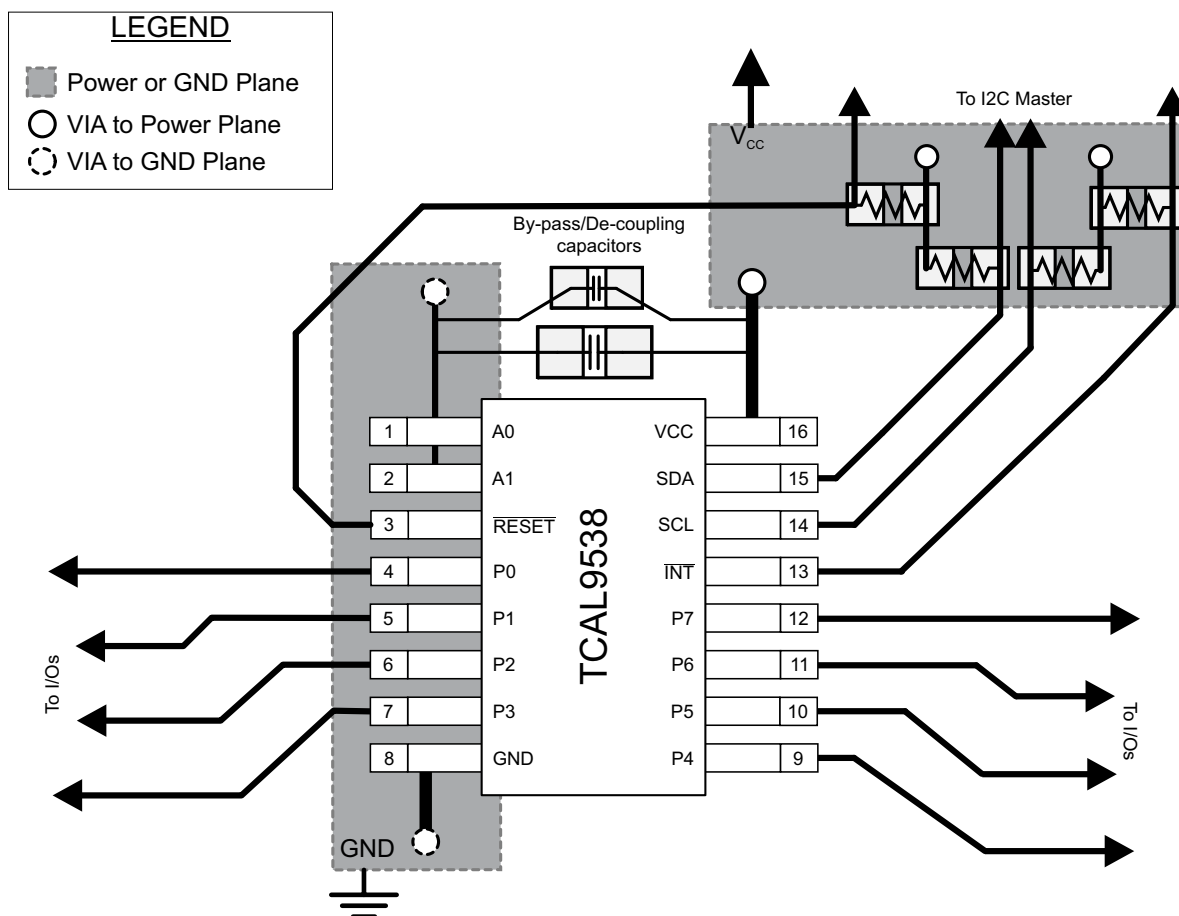

Figure 8-9. TCAL9538 Layout
It is a best practice to avoid right angles in signal traces, to fan out signal traces away from each other upon leaving the vicinity of an integrated circuit (IC), and to use thicker trace widths to carry higher amounts of current that commonly pass through power and ground traces in all PCB layouts. Bypass and decoupling capacitors are commonly used to control the voltage on the supply pins. Using a larger capacitor provides additional power in the event of a short power supply glitch, and using a smaller capacitor filters out high-frequency ripple. These capacitors should be placed as close to the TCAL9538 as possible. Figure 8-9 shows these best practices.
For the layout example provided in Figure 8-9, it is possible to fabricate a PCB with only 2 layers by using the top layer for signal routing and the bottom layer as a split plane for power and ground (GND). However, a 4 layer board is preferable for boards with higher density signal routing. On a 4 layer PCB, it is common to route signals on the top and bottom layer, dedicate one internal layer to a ground plane, and dedicate the other internal layer to a power plane. In a board layout using planes or split planes for power and ground, vias are placed directly next to the surface mount component pad which needs to attach to power or GND and the via is connected electrically to the internal layer or the other side of the board. Vias are also used when a signal trace needs to be routed to the opposite side of the board, but this technique is not demonstrated in Figure 8-9.